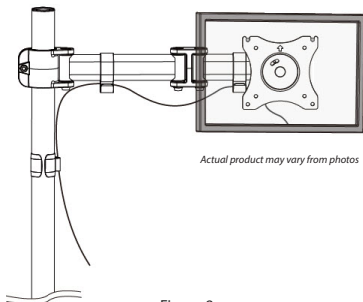

Figure 8
- Route the **Laptop Cables** through the **Integrated Cable Management Clips**, located on the **Swivel Arm (A)**, and the **Cable Management Clip(s) (D)**, located on the **Pole (B)**, and to their respective **Power/Video Source**.(Figure 8)